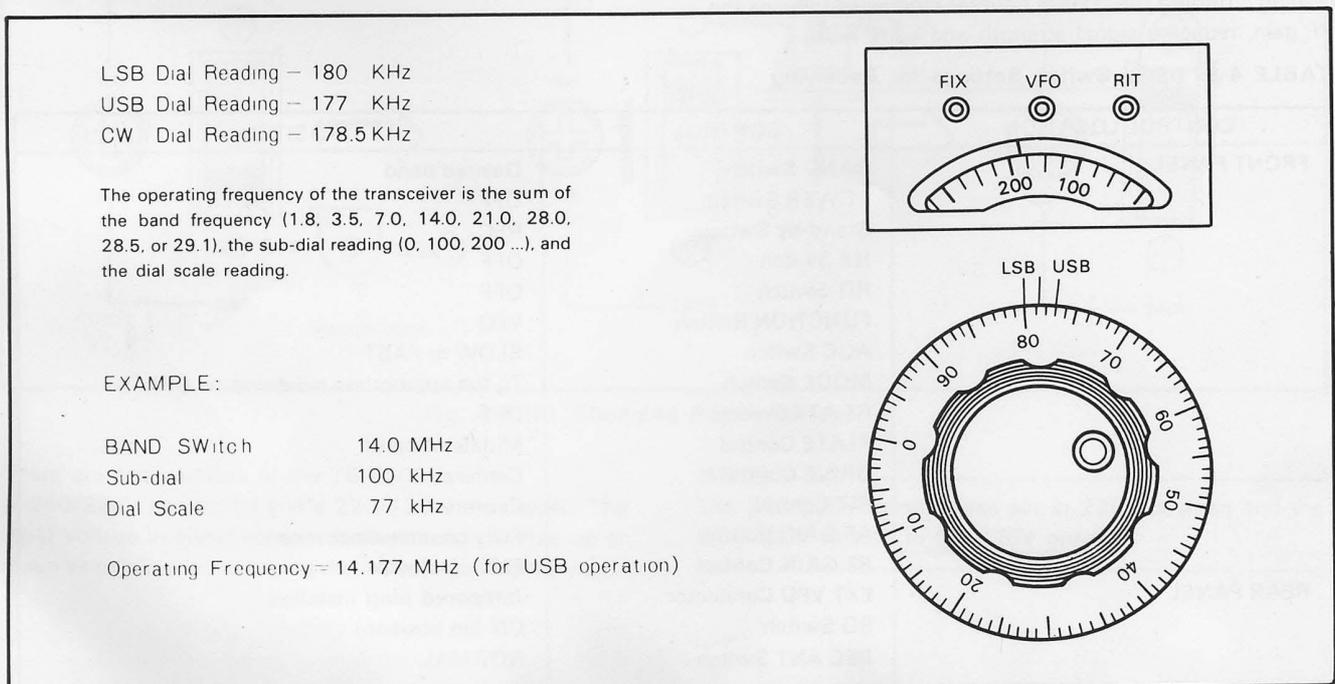

Fig. 4-1 Reading the Operating Frequency (Refer to Section 4.3)
4.3 READING THE OPERATING FREQUENCY (See Figure 4-1.)